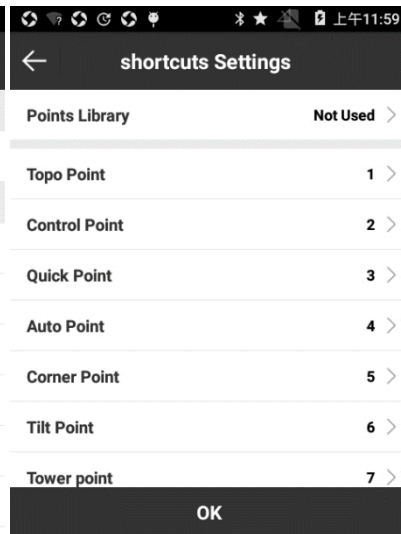

Figure 3.9-2
Shortcuts Settings: as shown in Figure 3.9-2, set up shortcut key for Points Library, set up shortcut keys for saving Topo Point, Control Point, Quick Point, Auto Point, Corner Point, Tilt Point and Tower Point, set up shortcut keys for Latest Point, Farthest Point, Last Point, Next Point in Stakeout. For P9A handheld, shortcut keys for collecting points default to Topo Point (1), Control Point (2), Quick Point (3), Auto Point (4), Corner Point (5), Tilt Point (6) and Tower point (7). It can customize the shortcut key as needed.